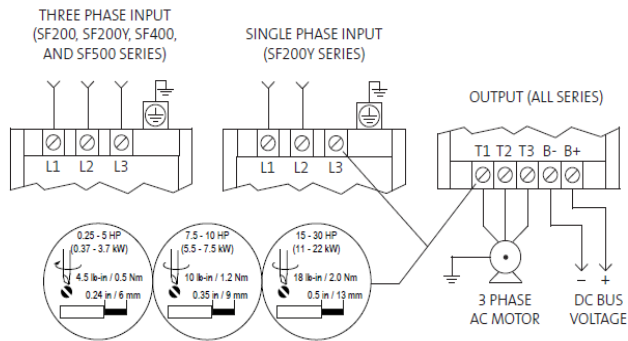
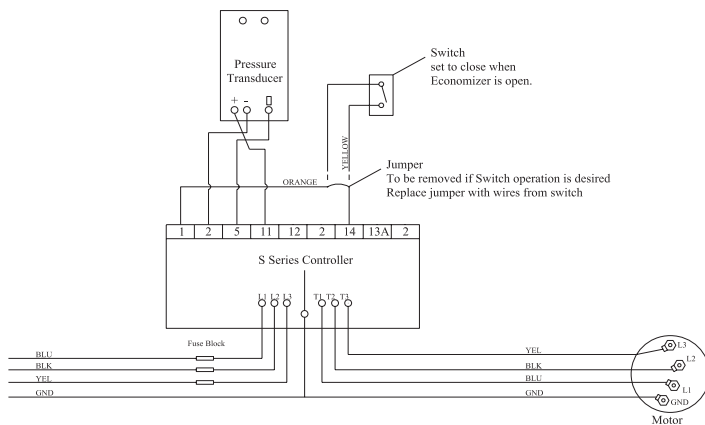

Fig. 4 - Examples of High Voltage Input Connections
Fig. 5 - Typical 3 Phase and 0-10Vdc Control Wiring Configuration
For typical wiring of high voltage and control voltage see Fig. 5. For high voltage variations – i.e. Single Phase or Three Phase – see Fig. 4.
1. Leave jumper between TB1 and TB14 (Fig. 5 & 6) for continuous ON operation. The Drive will sleep (turn off) during periods of low building pressure.